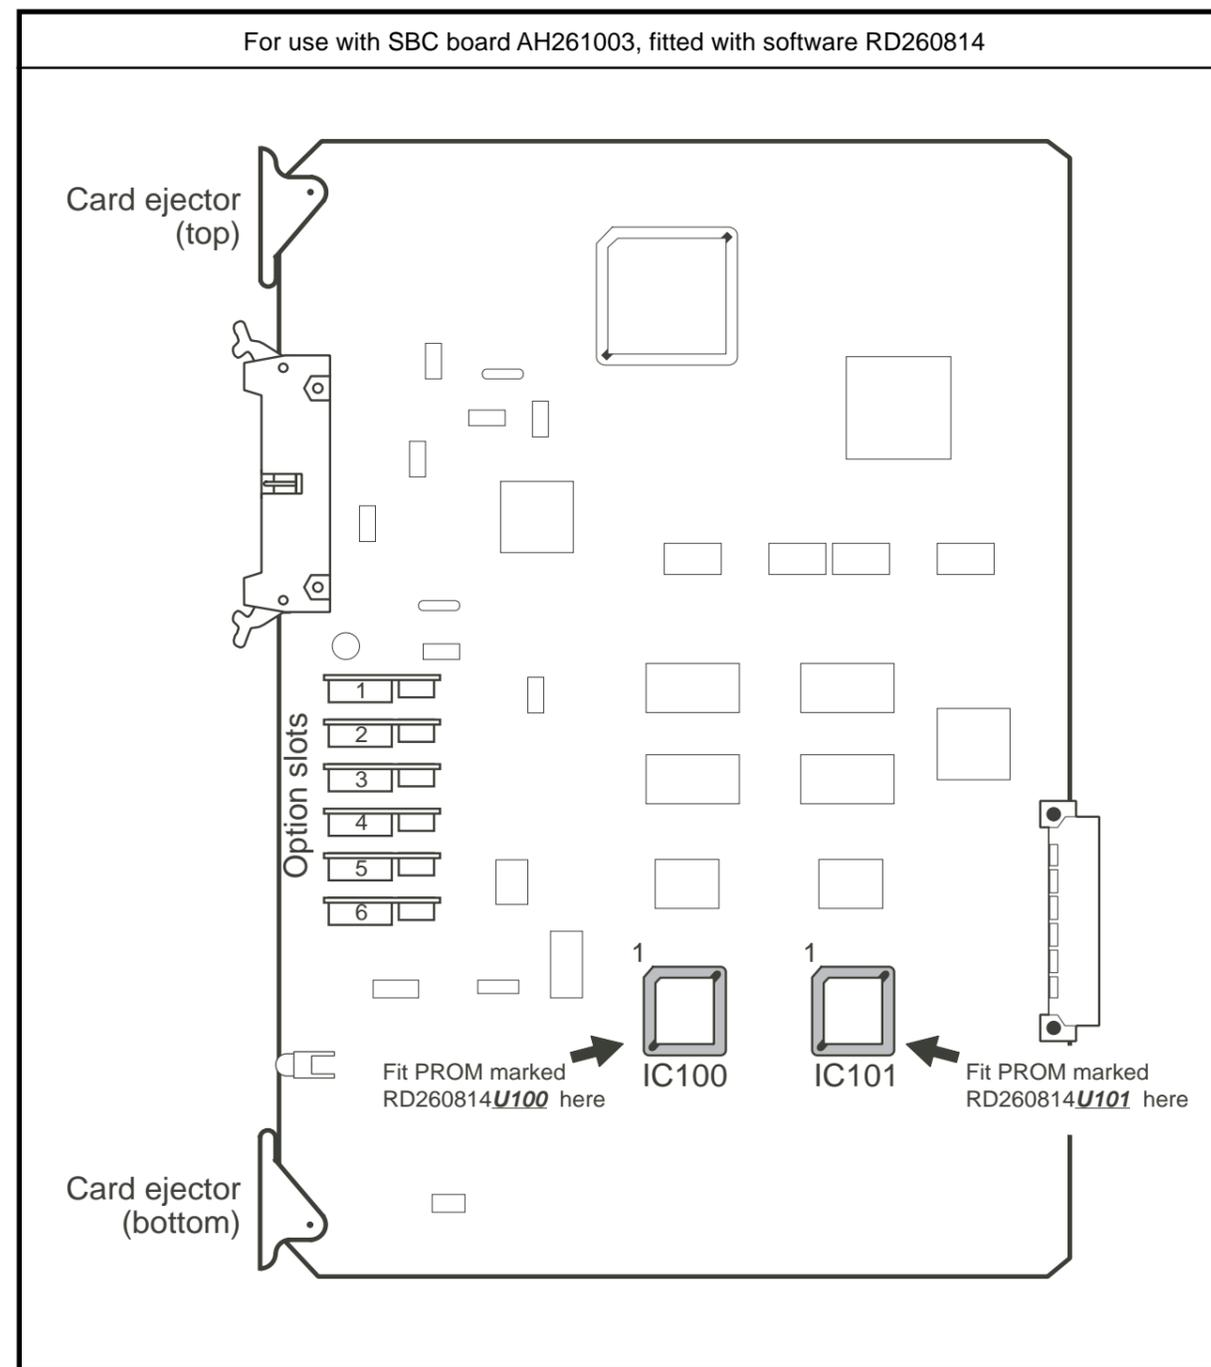
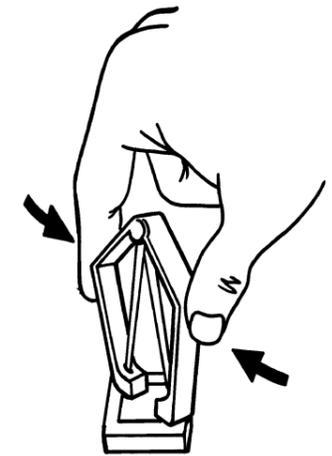

Figure 1 IC locations
Figure 6 PROM removal
6. Locate ICs 100 and 101 (figure 1) and remove them from their sockets using a suitable extractor tool (figure 6) and discard them.